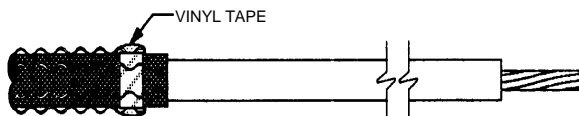

Figure 3
9. Bend the drain wires over the mastic and press into the mastic (**Figure 3**). Overwrap mastic with 2 layers of highly stretched vinyl tape (e.g. Scotch™ Super 33+ Tape, not supplied in kit).